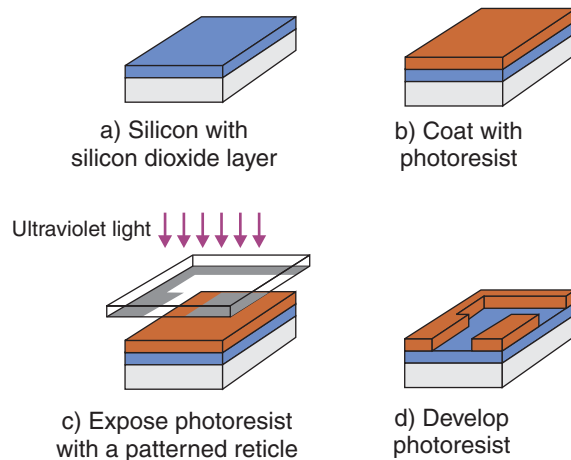
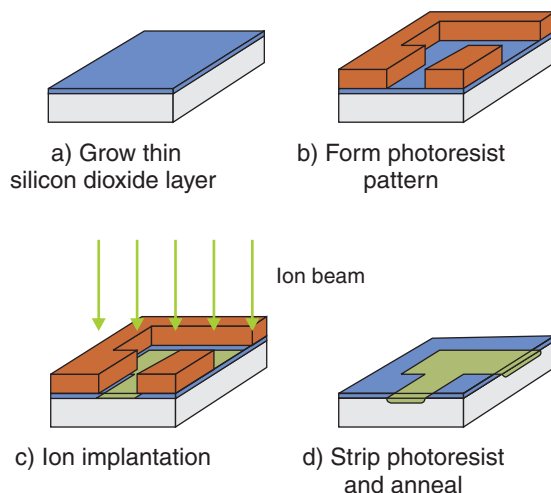

Figure 7. Photolithography process.
Figure 8. Ion Implantation.
- Exposure - the exposure step photographically transfers a pattern from a reticle to the photoresist coating on the wafer surface. Reticles are glass plates with patterns of opaque and transparent areas. A reticle will typically have the patterns for a few die on it and will be stepped across the wafer exposing the pattern after each step to cover the wafer with patterns. In order to ease the task of reticle fabrication and make the process less defect sensitive, reticle patterns are either 5x or 4x the size of the desired feature on the wafer, and the reticle pattern is optically shrunk before reaching the wafer. Figure 7 illustrates pattern formation on a wafer by photolithography.
The Ion Implantation process is made selective by using a photoresist pattern to block impurity ions from reaching the silicon surface where no impurities are desired. The selective introduction of impurities process begins with the growth of a thin silicon dioxide layer. The silicon dioxide layer protects the silicon surface, but must be thin enough not to block the implanted ions. Photoresist is then applied and patterned as outlined in figure 7, and ion implantation is performed. Following ion implantation, the photoresist is stripped off and a high temperature furnace process is used to anneal out the damage from the high energy ions impacting the silicon - see figure 8.